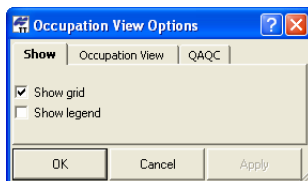

Figure 4-53. Occupation View Show Options
1. Click **View ► Occupation View Options** or right-click on an empty portion of the Occupation view and click **Options** on the pop-up menu. The *Occupation View Options* dialog box displays (Figure 4-53 on page 4-54).
2. On the *Show* tab, enable the desired parameters (Figure 4-53). Click **Apply** to save the settings and make further changes.